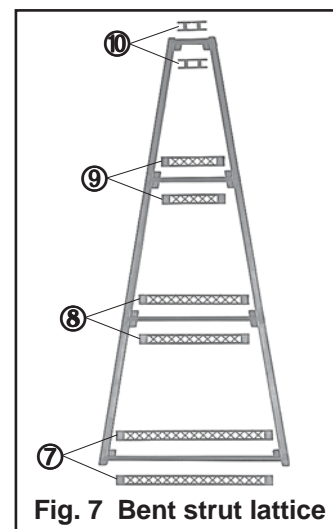

Fig. 7 Bent strut lattice
6. Cement the upper and lower **bent strut lattice** and **brace**, parts (7), (8), (9) and (10) to the bent assembly. Figure 7 shows their general position.